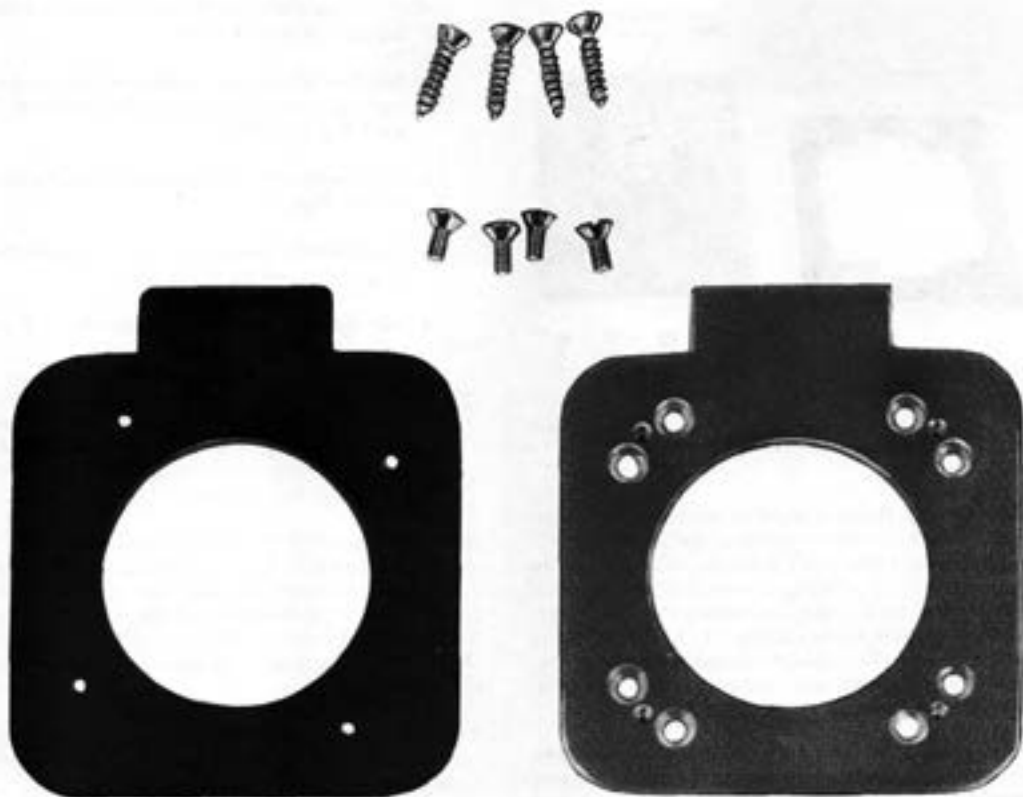

Fig. 12—#8 Adapter Plate
2.11 The B adapter plate (Fig. 12) is used to adapt the B waterproof jack to a boat where the KS-8420 jack had previously been mounted.